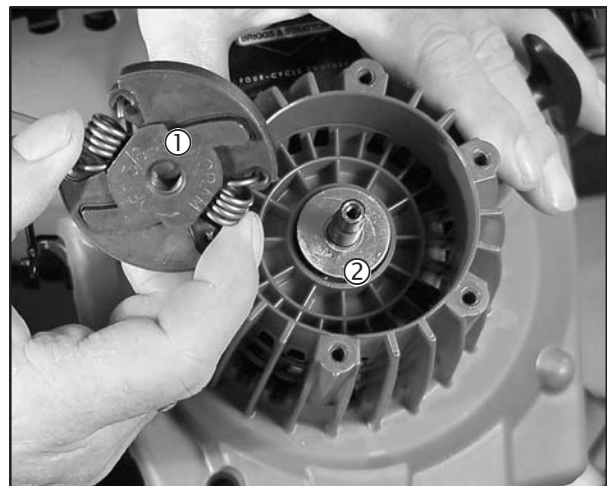

Fig. 9
3. Remove clutch (1) and thrust washer (2), Fig. 9.